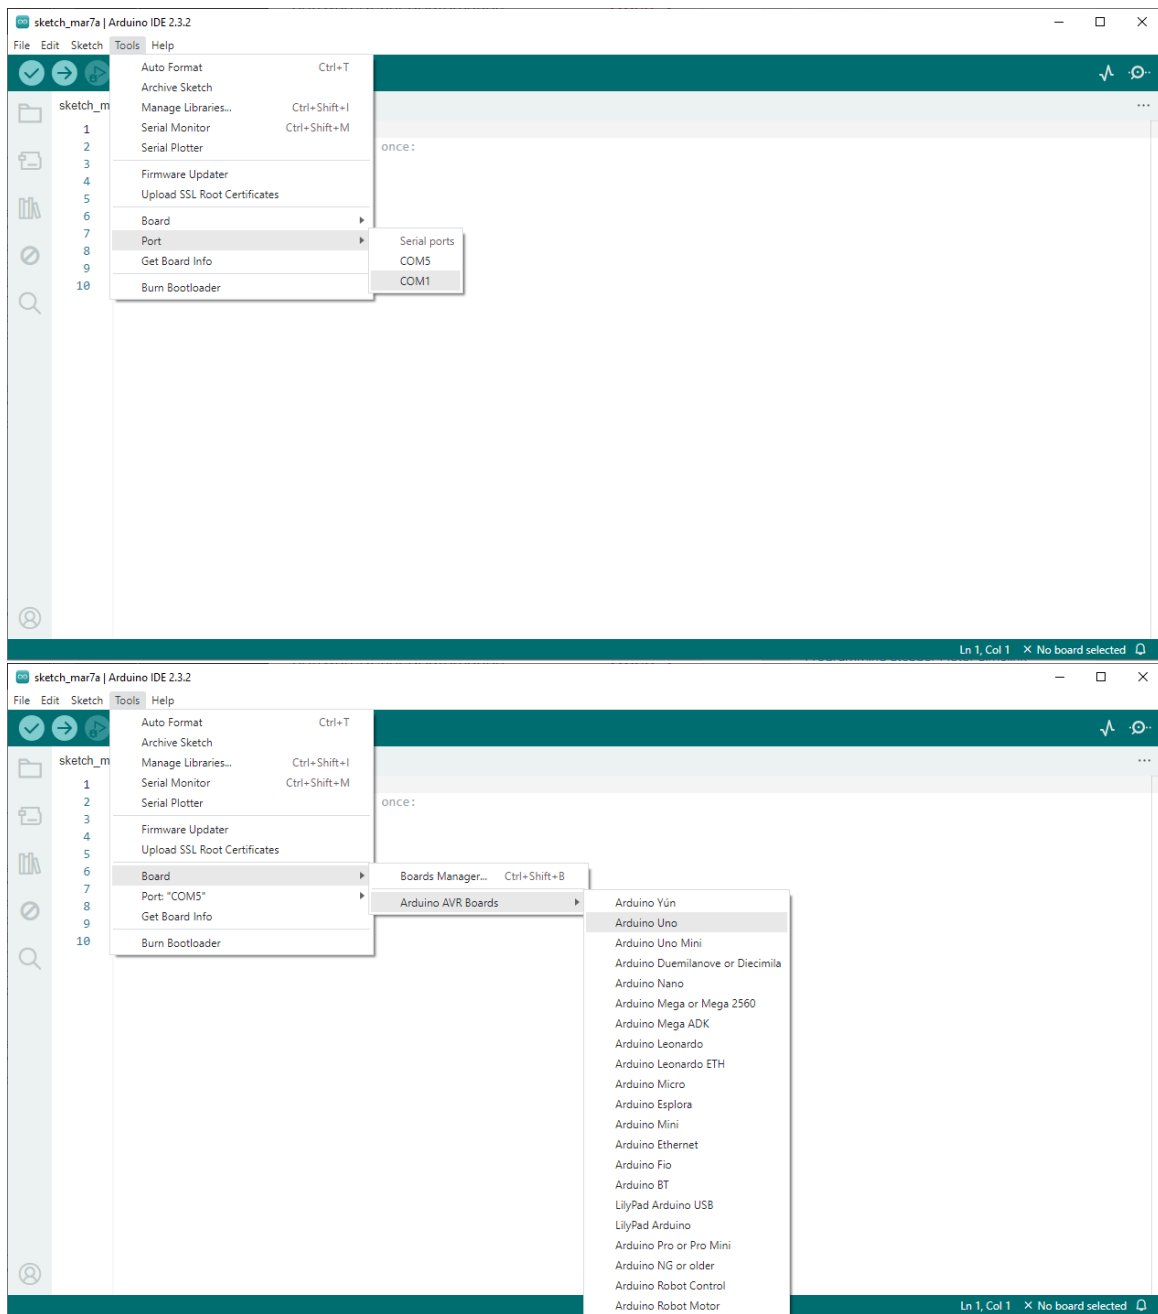

Figure 4.5: Setting the correct COM port (top) and the correct Arduino board (bottom) on Arduino IDE.
9. On menu Tools, submenu Port, choose the correct port number for the Arduino; then, on submenu Board, choose the Arduino One board (see Figure 4.5).